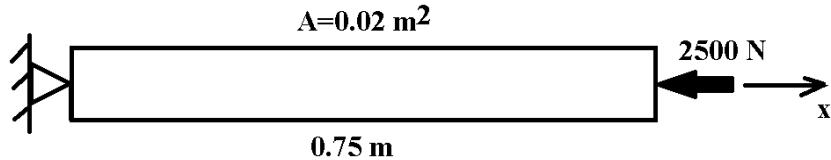

Fig. 1b
b) Determine the displacement for the bar as shown in Fig. 1b below. Use Rayleigh –Ritz method for the solution. Take $E = 70$ GPa. 10